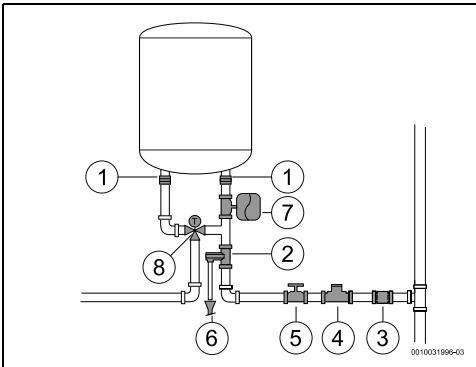

Fig. 11
- ▶ to install a pressure reducing valve (Fig. 11, [4]). The pressure relief valve will activate whenever the water pressure in the appliance is above 8 bar (± 1 bar), for which reason it is necessary to plan a way of draining off this water.
- ▶ install an expansion vessel (Fig. 11, [7]) to stop the pressure relief valve opening so frequently. The volume of the expansion vessel should be equivalent to 5% of the volume of the appliance.